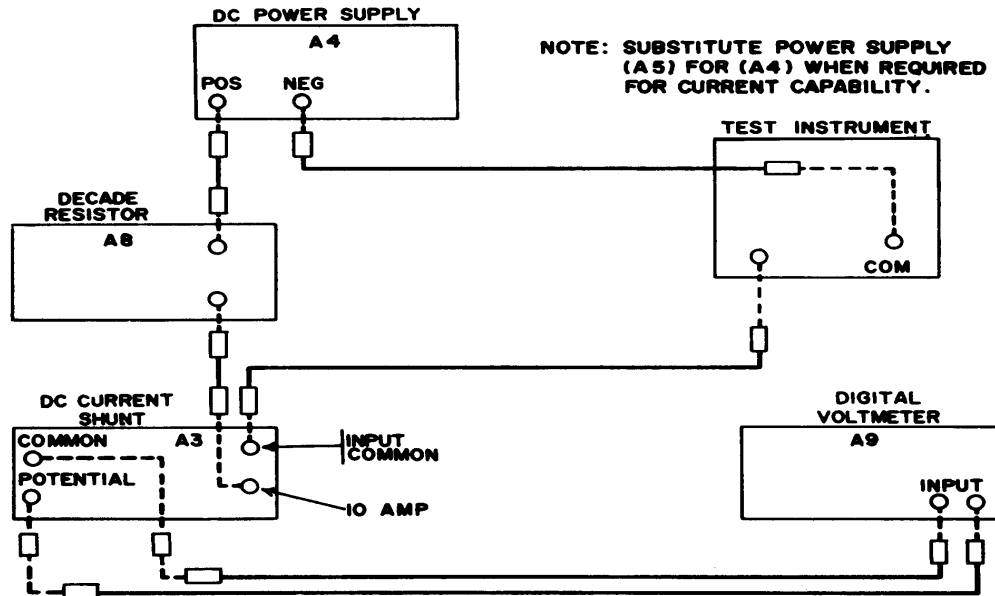

Figure 1. Dc current - equipment setup.
- (1) Set function switch to dc amps and range switch to the first dc current range listed in the calibration performance specifications and adjustments table for the TI being calibrated.
- (2) Connect equipment as shown in figure 1.